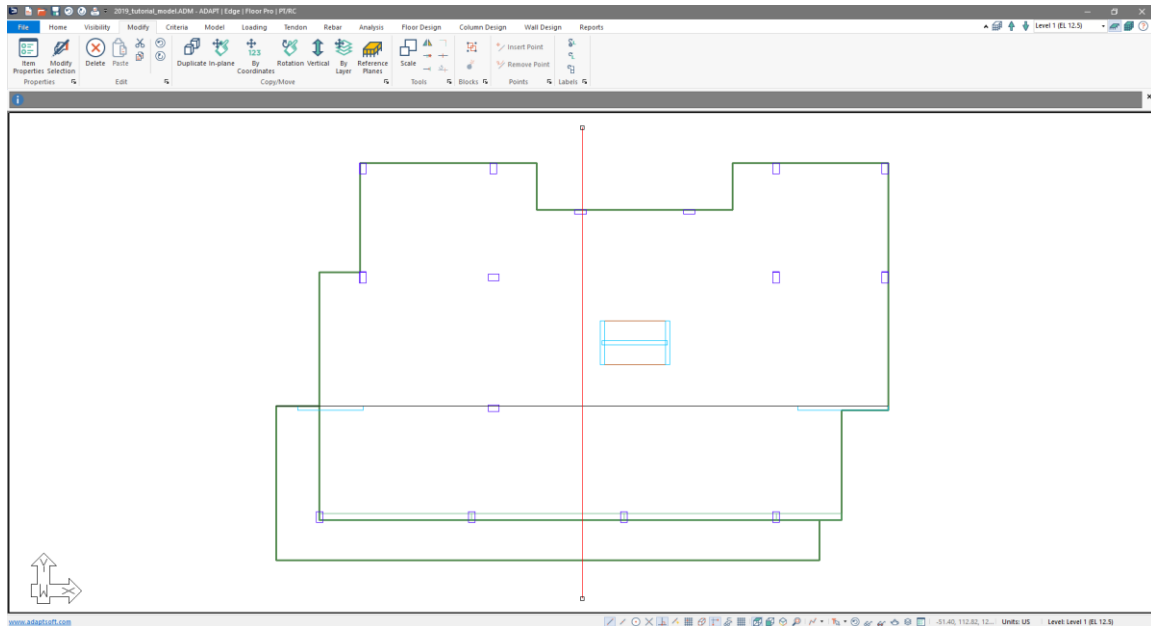

Figure 9-57
- We should now have a vertical line and the center of the horizontal width of the structure as shown in **FIGURE 9-57**.